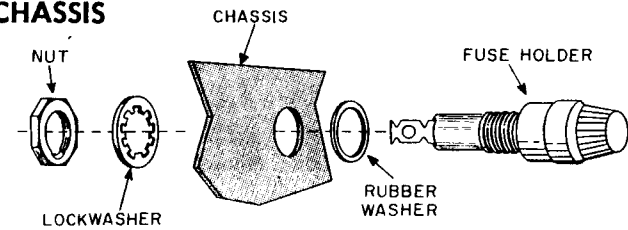

FIGURE 4. FUSE HOLDER MOUNTING
- Fuse holder. Position with the terminals as shown. Mount as shown in Figure 4.